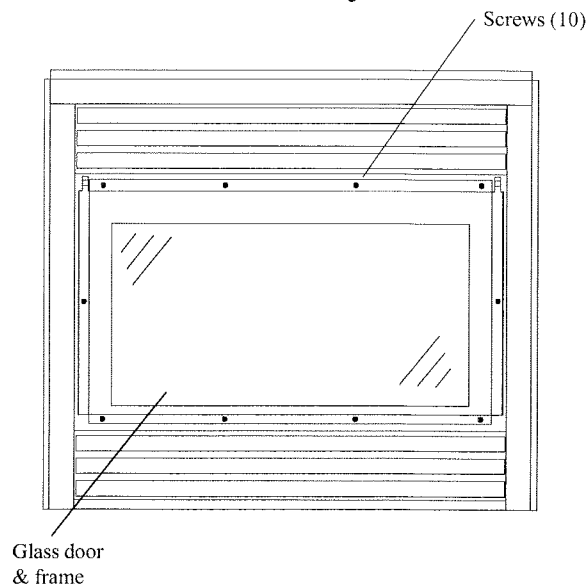

Figure 24b. Removing or installing the glass door.
To install/remove the glass door, simply attach/remove the ten (10) machine screws that hold door in place (*See figure 24b*). Ensure that a good seal is maintained when installing the door.